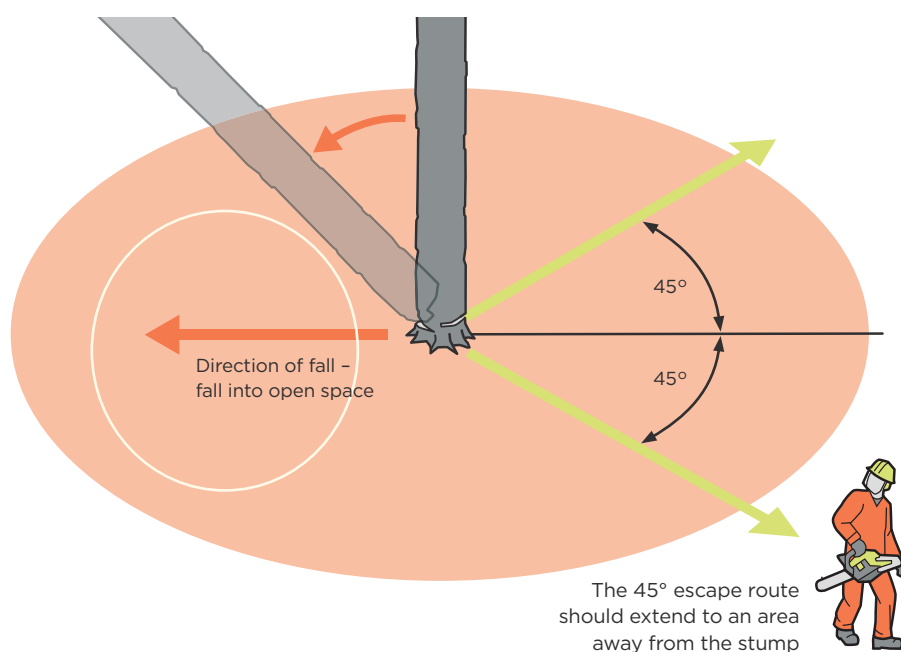

FIGURE 22: Escape route positioning⁵
- Always think about the escape route before starting any felling cuts. Where possible, make sure the escape route is at a 45-degree angle opposite the felling direction (Figure 22).
- are positioned up the escape route in full view of the faller (Figure 22)
- there is an escape route cleared at a 45-degree angle opposite the felling direction where possible (Figure 22)